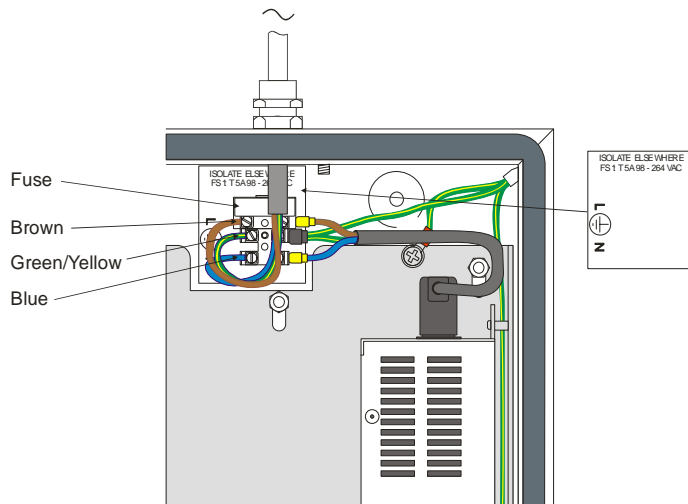

Figure 6 – Mains Input Arrangement – ZX5Se
- The ZX5Se Fire Alarm Control Panel receives power from a 115V - 230V, 50Hz external supply. The current flows through a back-box-mounted fuse. The input mains voltage is converted to a safe extra low voltage. The location of the power supply ratings label is shown in Figure 6.